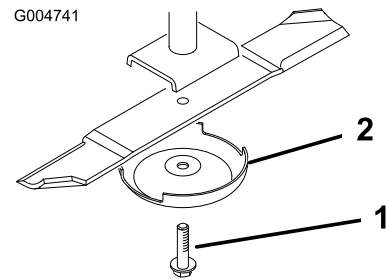

Figure 85
2. Grasp the end of the blade using a rag or thickly padded glove. Remove the blade bolt, anti-scalp cup, and blade from the spindle shaft (Figure 85).